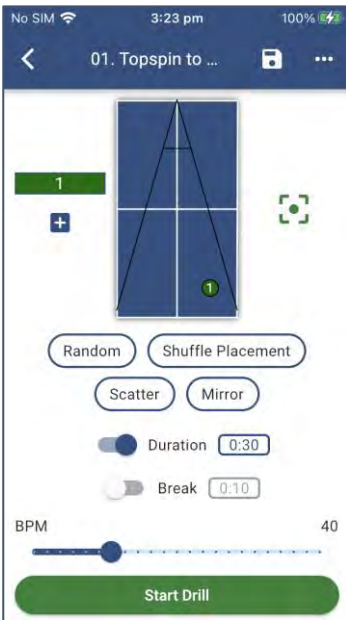

Figure 3-48
- From the Drill Edit screen, press the Duration Toggle Switch to move it to the ON position. (Figure 3-48)